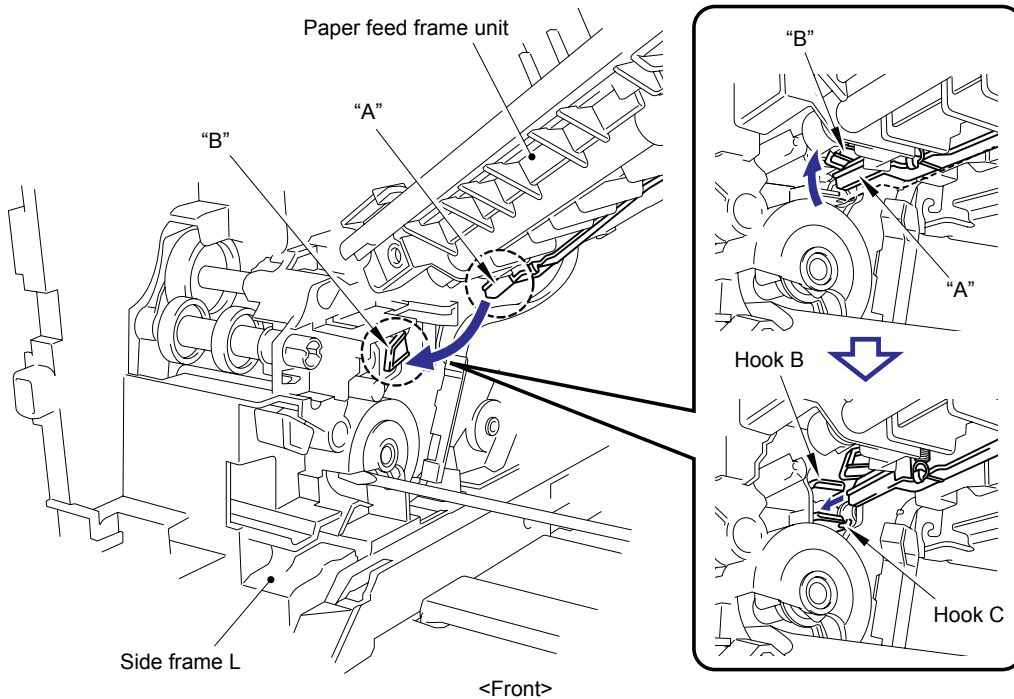

Fig. 3-122
- (1) Put the belt cleaner release sensor harness and belt cleaner release solenoid harness through the hole on the paper feed frame.
- (2) Put the two harnesses above and T1 PE/edge sensor harness through the PF CR harness holder and put them out of the hole on the Side frame L.
- (3) Hold the PU lift up cam with a Screwdriver or similar and push to the back of the machine . The section "B" shown in Fig. 3-122 in the next page can be moved up and down by this operation, which makes it easy to assemble the lift arm.